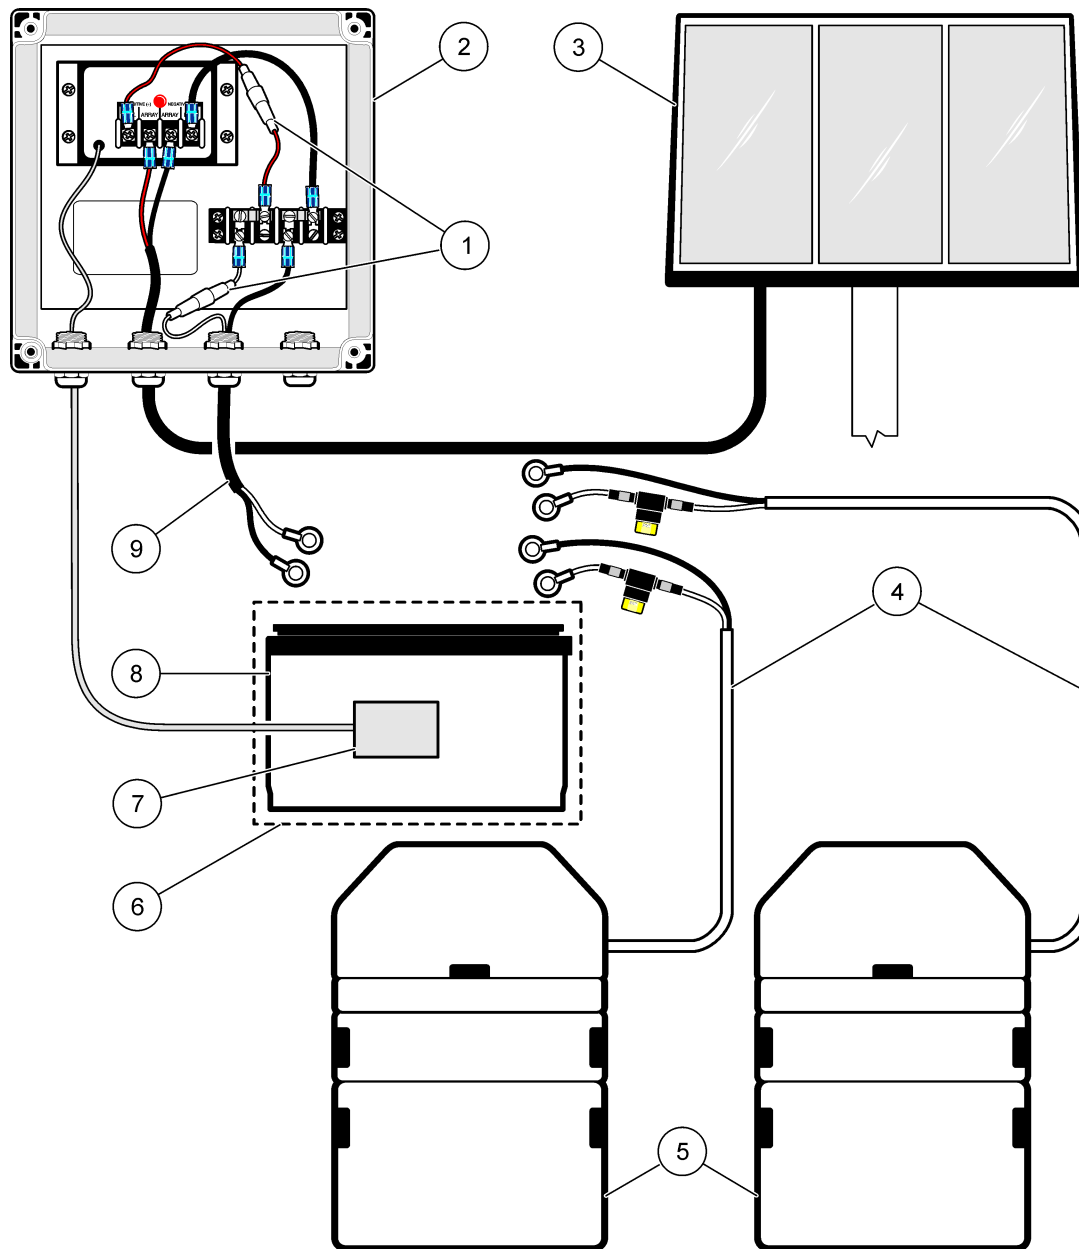

Figure 12 Multiple 900 MAX or SD900 samplers
5. Remove the nut from the battery cable strain relief and feed the battery cable wires through the third hole on the regulator. Thread the nut over the wires and tighten to secure. Connect spade terminals to the screw terminals. Refer to Figure 12 on page 20.